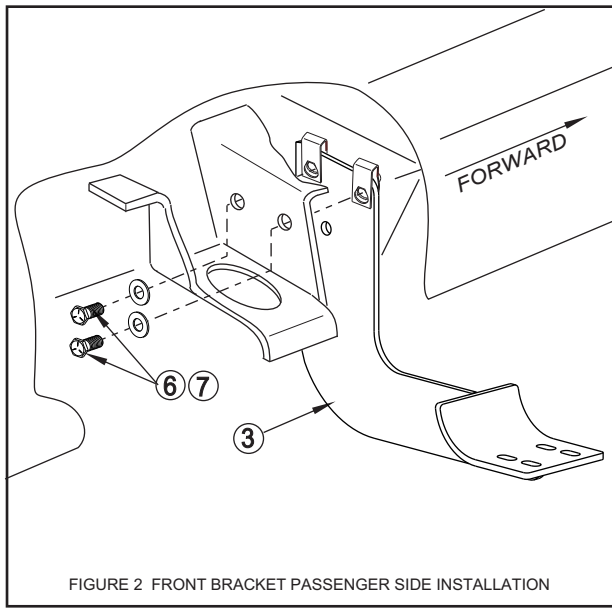

FIGURE 2 FRONT BRACKET PASSENGER SIDE INSTALLATION
- STEP 3. Install front brackets as shown. Use knuckle extension(s) with socket wrench for easier installation of front brackets. **NOTE:** Bolts are inserted up through bracket in body as shown. **SEE FIGURES 2 AND 3.**